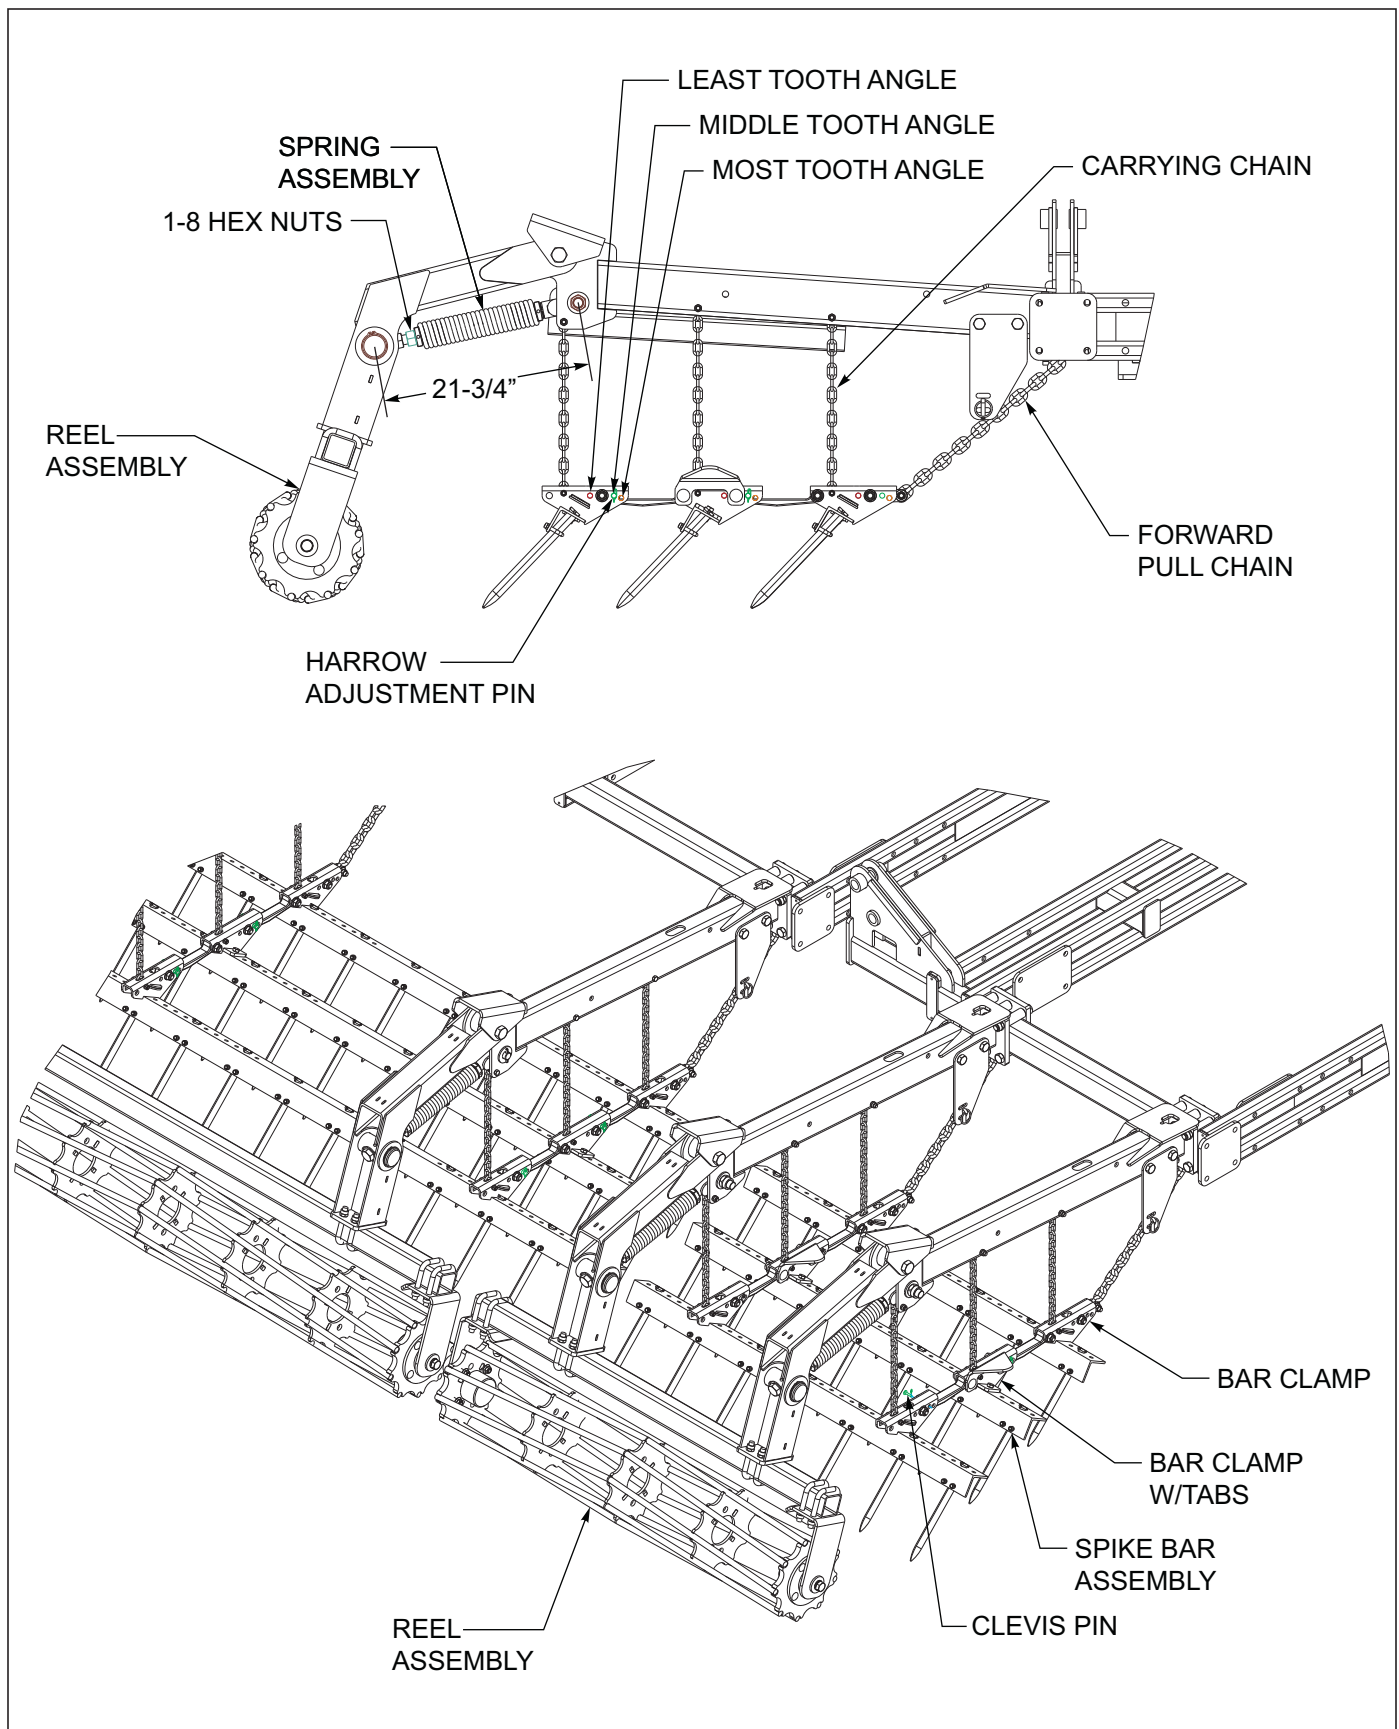

Figure 4-11: 3 Row Spike and Reel Adjustments
3. For the most aggressive spike tooth action, install the harrow adjustment pin in the forward mounting hole over each bar clamp for each spike bar See Figure 4-11. This will position the spike teeth to be in the most vertical position. In wetter or conditions with some residue, lower the spike tooth angle by positioning the harrow adjustment pin in the middle or rear hole. This will allow the teeth to lay flatter and shed more residue.